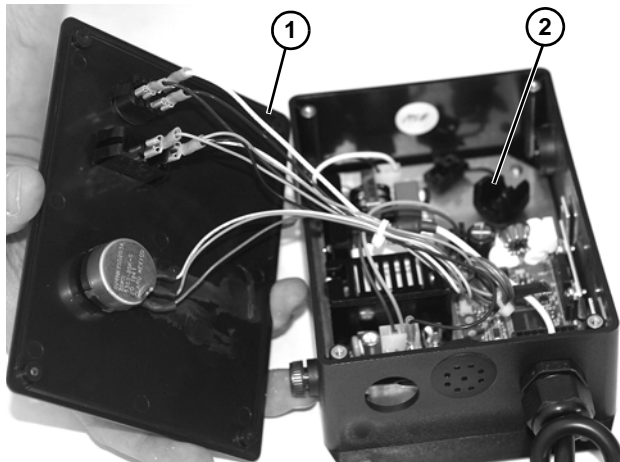

Figure 40
7. Remove four screws and cover (**Figure 40, item 1**) from new controller.
8. Locate new cord retainer (**Figure 40, item 2**) located inside new controller.